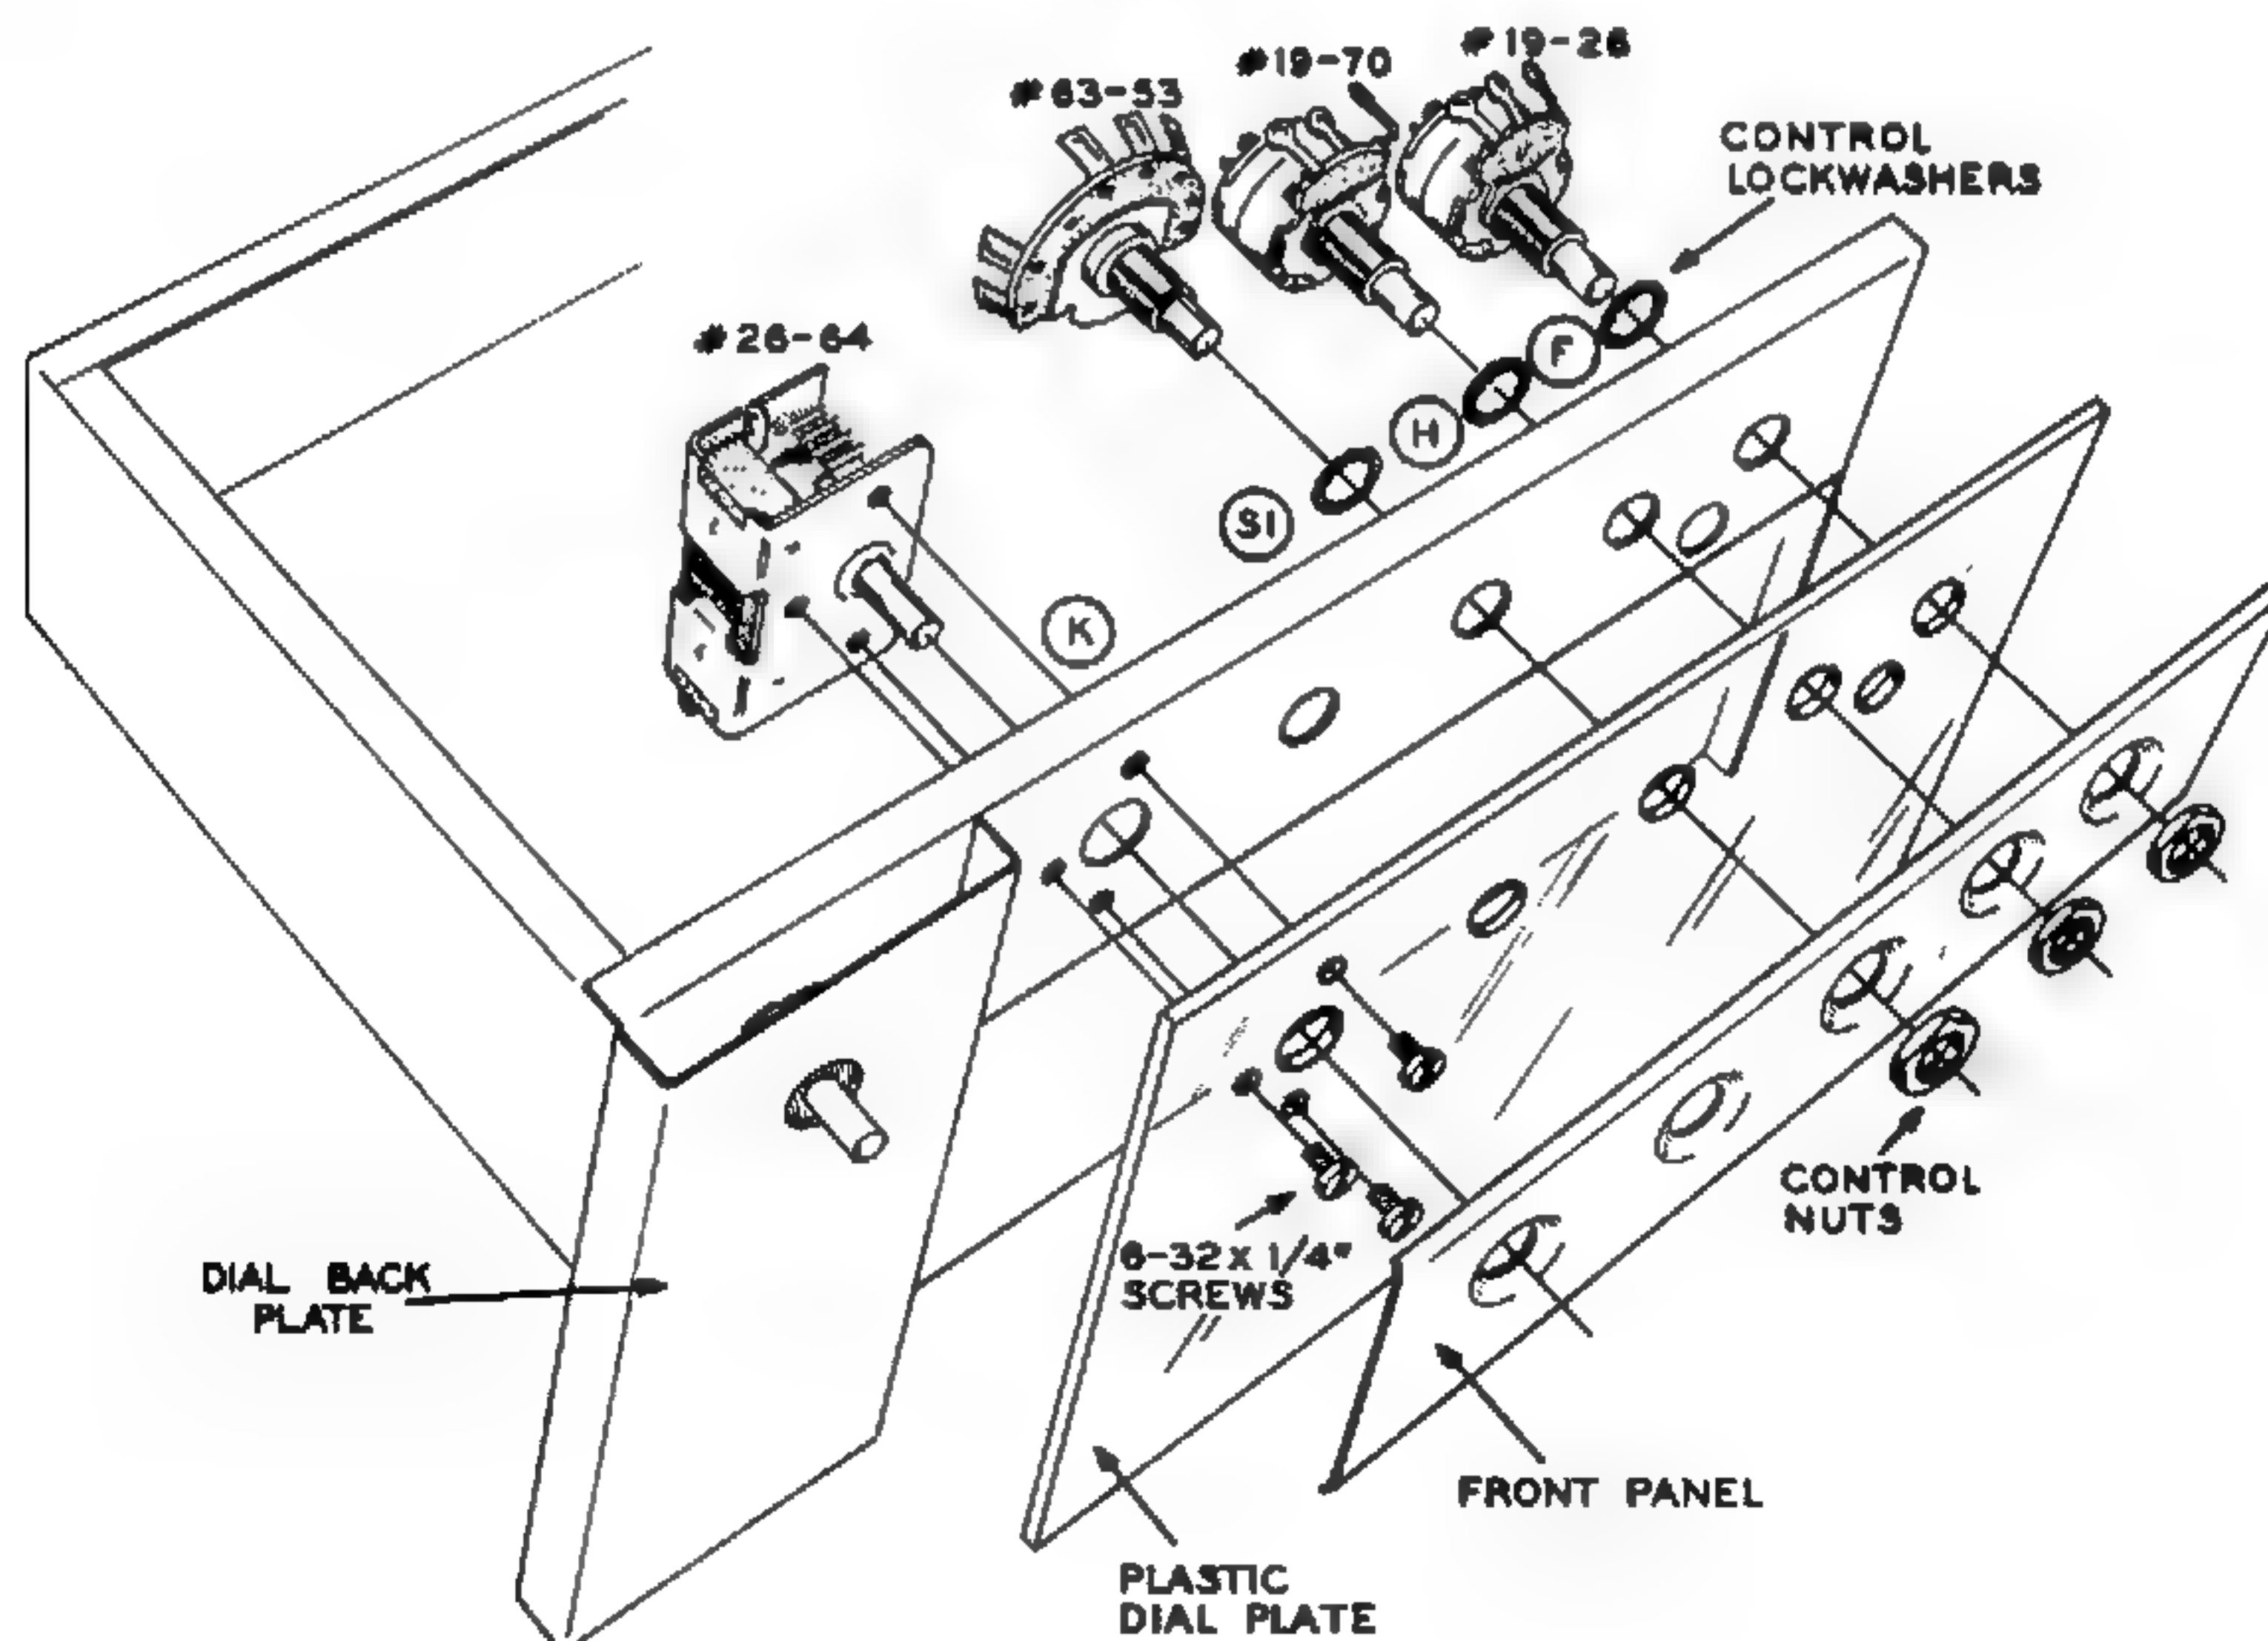

Figure 8
plastic dial plate on the outside of the chassis as shown in Figure 8. Use a control lockwasher and nut but do not mount the front panel or tighten the nut at this time.
- (✓) C12. Mount variable capacitor (#26-64) at K on the inside of the chassis and the large plastic dial plate on the outside of the chassis as shown in Figure 8. Use three 6-32 x 1/4" screws. Do not overtighten these screws as the plastic may crack.